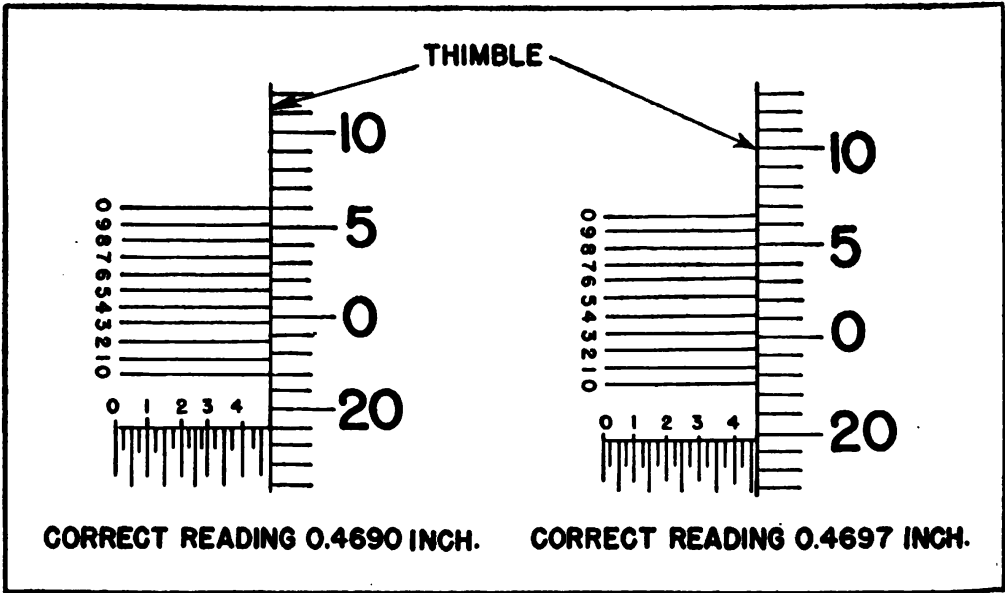

FIGURE 102.—Practice readings of vernier micrometer.
(2) Figure 102 shows two further examples of the vernier scale applied to the micrometer. Following the procedure previously outlined, the example on the left is read thus:
(3) Use the same method on the example on the right in figure 102. The reading in thousandths is the same as the example on the left; however, the graduation on the vernier which coincides with a line on the thimble is 7. Therefore, add 0.0007 inch to the reading in thousandths, and the correct final reading in this case is 0.4697 inch.